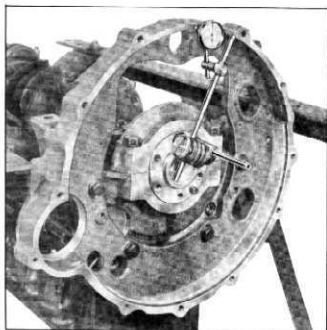

Fig. 60—Checking Face Parallelism
3. Indicate face of housing and take readings at the 9, 12 and 3 o'clock positions. The runout limit is .007" (fig. 60).